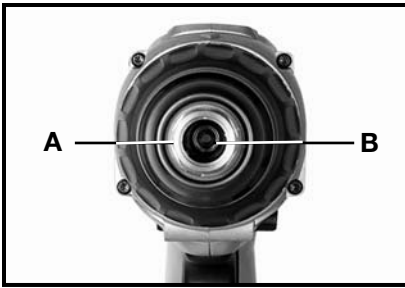

Fig. 12
1. Open chuck jaws (A) Figs. 12 and 13 as wide as possible to gain access to the chuck retaining screw (B) Fig. 12.